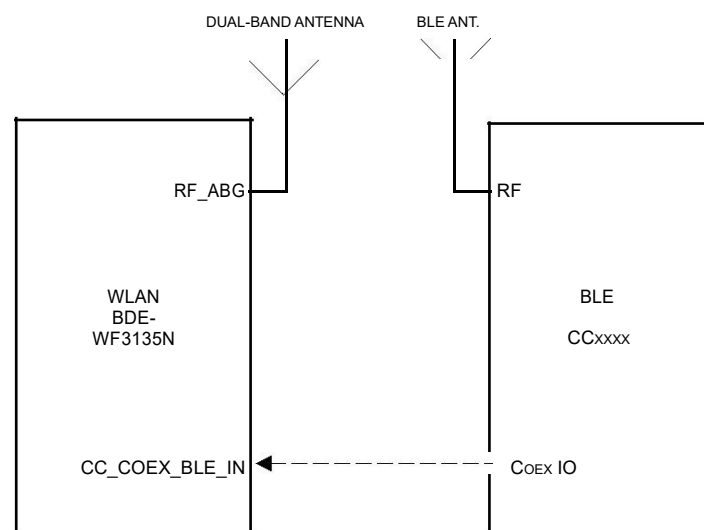

Figure 16. Dual-Antenna Coexistence Mode Block Diagram
- Dual-band Wi-Fi (see Figure 16)
Figure 16 shows the dual antenna implementation of a complete Bluetooth® low energy and WLAN coexistence network with the WLAN operating on either a 2.4- or a 5 GHz band. Note in this implementation no Coex switch is required and only a single GPIO from the BLE device to the BDE-WF3135N device is required.